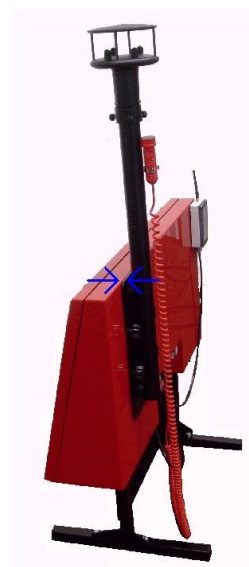

Fig. 3
- Connect the push button (normally open contact) on the two START bananas. When not used, the push button can be stored by clipping it on the head's pole (see Fig. 3).